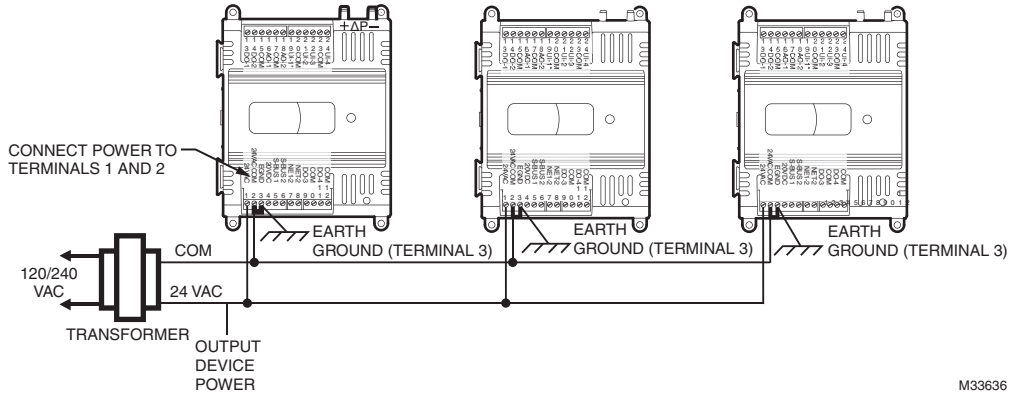

Fig. 10. Power wiring details for two or more controllers per transformer.
- For multiple controllers operating from a single transformer, the same side of the transformer secondary must be connected to the same power input terminal in each controller. Controller configurations will not necessarily be limited to three devices, but the total power draw, including accessories, cannot exceed 100 VA when powered by the same transformer (U.S. only). The earth ground terminal (terminal 3) must be connected to a verified earth ground for each controller in the group (see Fig. 10 on page 7).
More than one controller can be powered by a single transformer. Fig. 10 shows power wiring details for multiple controllers.
- When multiple controllers operate from a single transformer, connect the same side of the transformer secondary to the same power input terminal in each device. The earth ground terminal (terminal 3) must be connected to a verified earth ground for each controller in the group (see Fig. 10).